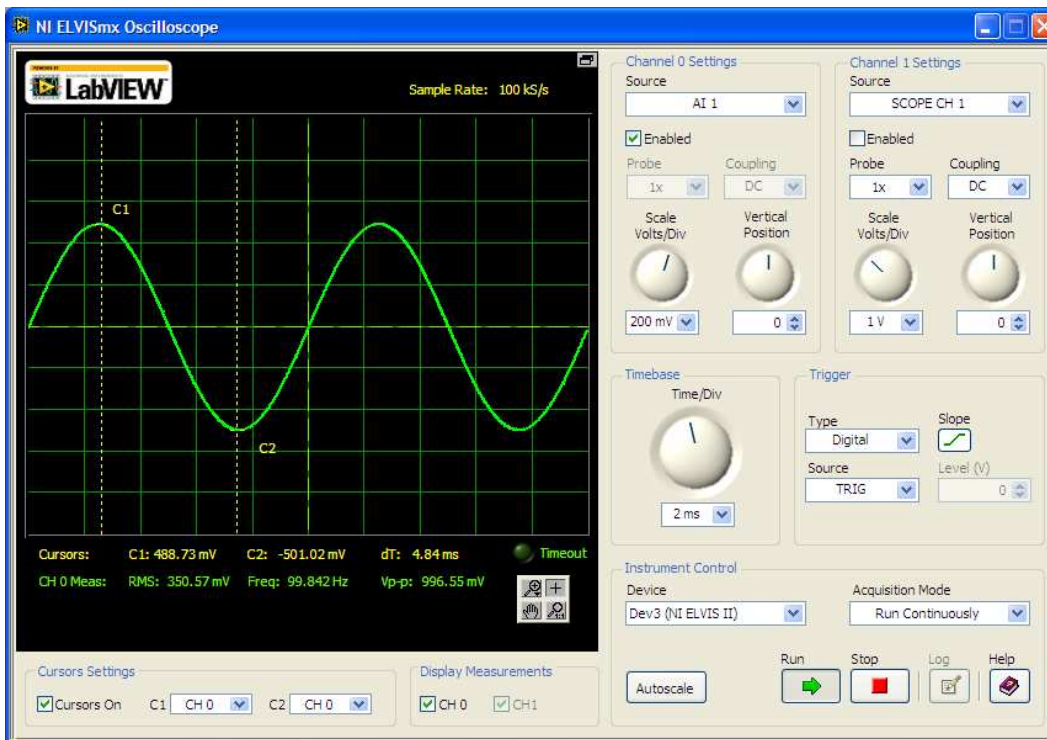

Fig. 15. NI Elvis Oscilloscope showing the input waveform on Channel 0.
10. This input signal originates from FUNC_OUT. The corresponding SYNC signal is TRIG. Hence under in TRIGGER section, select TRIG option. The output should now appear as shown in figure 15. This is the input signal for our RC circuit.